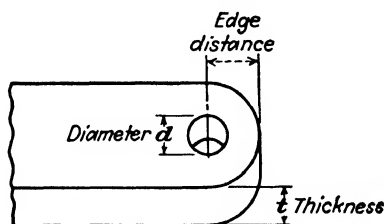

Fig. 217.
*Bearing area* is equal to the thickness of the plate multiplied by the hole diameter (see Fig. 217).